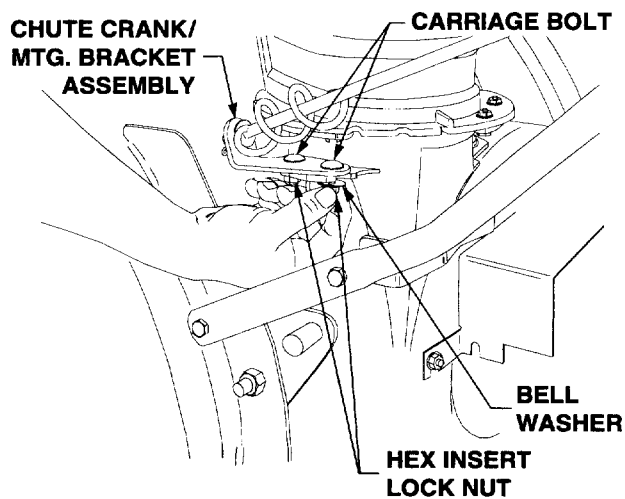

Figure 6
8. Position the chute crank/mtg. bracket assembly (F) on the mounting flange (left side) of the chute adapter so that the spiral of the chute crank engages the teeth of the discharge chute (B). Fasten the chute crank mtg. bracket (F) with the two carriage bolts (6), bell washers (7), and hex insert lock nuts (8). *NOTE: the crown (rounded surface) of the bell washers should be against the lock nuts.* Do not completely tighten the hex insert lock nuts now. Refer to Figure 6.